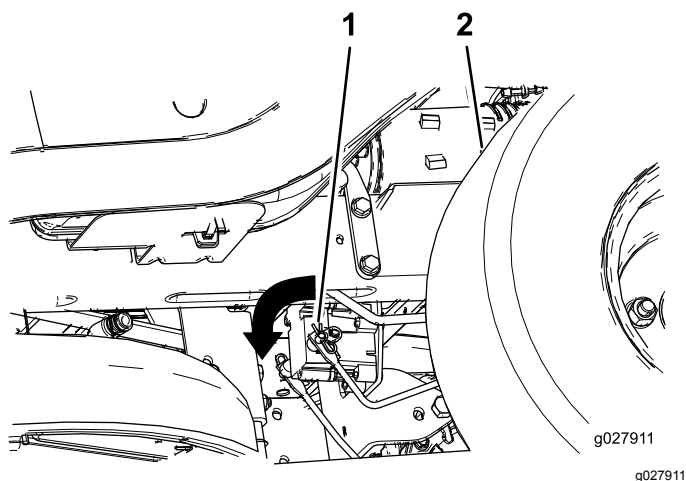

Figure 51
2. Locate the shaft on the electric brake where the brake link arms are connected (Figure 51).